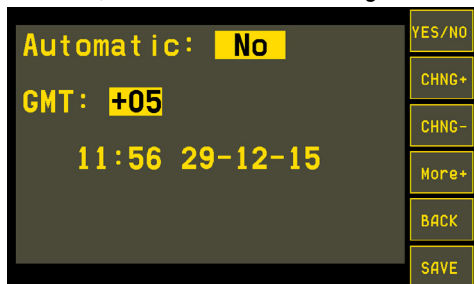
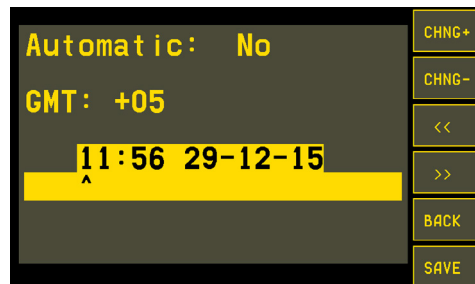

Fig.26. Time zone.
Fig.27. Date and time.
- To set up current date and time, press the More+ button in the Local time menu (Fig.26). This will enable additional buttons (Fig.27). Then, you need to select a value to edit using the buttons “>>” and “<<”. As the value is selected, use the CHNG+ button to increase it or use the CHNG- button to decrease the value.